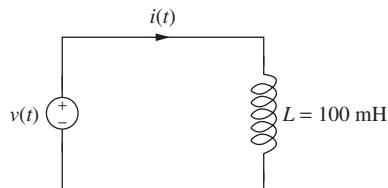
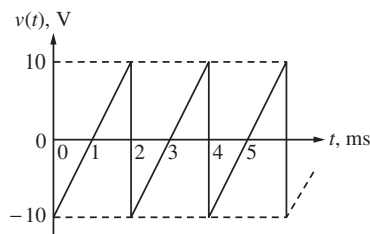

Figure P9.32 A voltage applied to an inductor.
Figure P9.34 Sawtooth voltage applied across an inductor.
9-32. For the circuit shown in Fig. P9.32, the voltage is $v(t) = 5 \cos(5t)$ volts, the current is $i(t) = 10 \sin(5t)$ A, and the total power is $p(t) = 25 \sin(10t)$ W. If the initial stored energy is $w(0) = 0$ J, determine the total stored energy, $w(t) = w(0) + \int_0^t p(t) dt$, and plot one cycle of $w(t)$.
- 9-34.** The sawtooth voltage $v(t)$ shown in Fig. P9.34 is applied across a $100\ \text{mH}$ inductor as shown in Fig. P9.32. Sketch the current $i(t)$ passing through the inductor knowing that $v(t) = L \frac{di(t)}{dt}$ or $i(t) = i(0) + \frac{1}{L} \int_0^t v(t) dt$. Assume that the current flowing through the inductor at $t = 0$ is zero (i.e., $i(0) = 0\ \text{A}$).